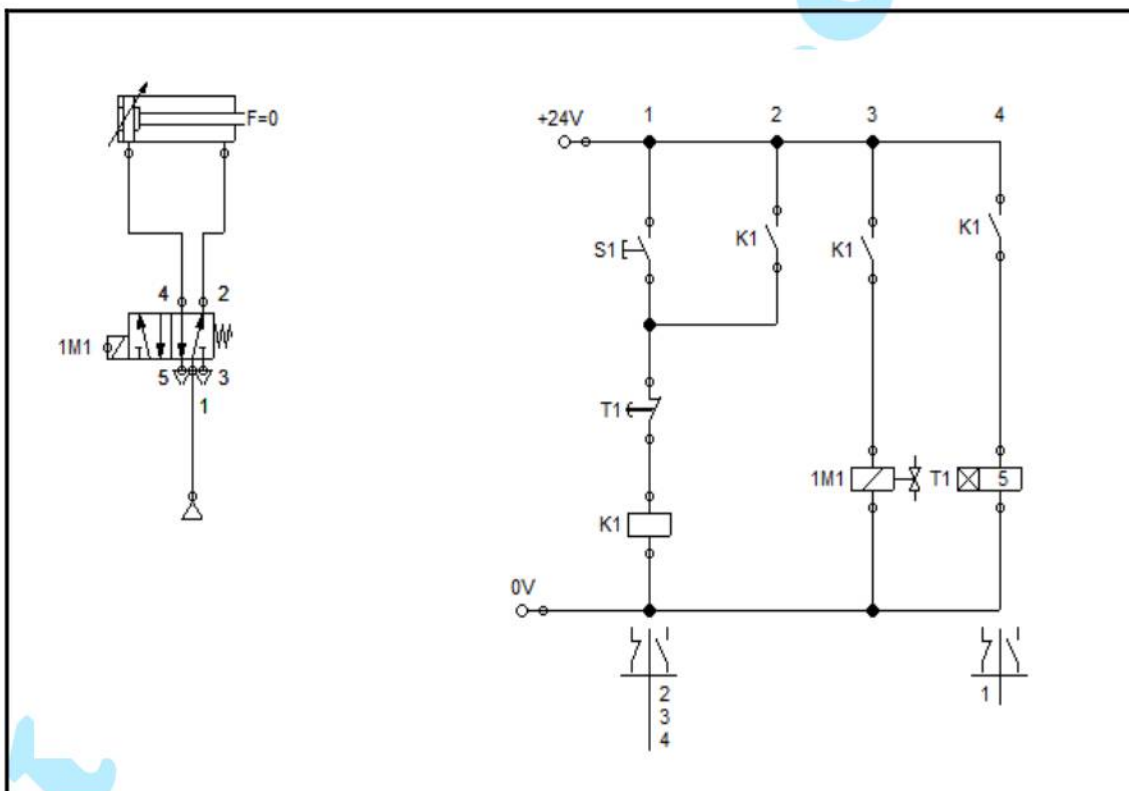

FIGURE 3
- 4.3 Explain with the aid of the given electro-pneumatic control diagram shown below in FIGURE 3, how a cylinder can be retracted after the timer has timed out. (5 × 1) (5)